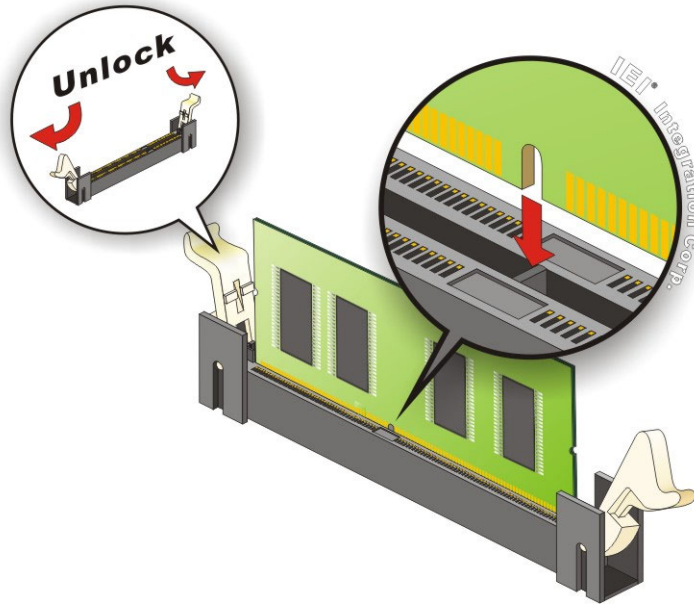

Figure 4-6: SO-DIMM Installation
To install a SO-DIMM, please follow the steps below and refer to **Figure 4-6**.
- Step 1:** **Open the SO-DIMM socket handles.** Open the two handles outwards as far as they can. See **Figure 4-6**.
- Step 2:** **Align the SO-DIMM with the socket.** Align the SO-DIMM so the notch on the memory lines up with the notch on the memory socket. See **Figure 4-6**.
- Step 3:** **Insert the SO-DIMM.** Once aligned, press down until the SO-DIMM is properly seated. Clip the two handles into place. See **Figure 4-6**.